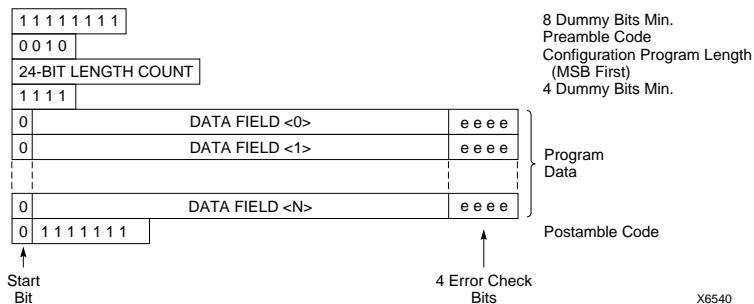

Figure 7-7 XC4000 Configuration Bitstream Format
Figure 7-7 shows the format of the XC4000 configuration bitstream, as generated by the MakeBits program. The bitstream consists of header and program data. The header consists of four dummy bits, the preamble code, the configuration-program-length count, and an additional four dummy bits. The program data is divided into frames consisting of a start bit (0), the data field, and four error check bits (eeee). The bitstream ends with eight or more postamble bits (01111111). The exact number of the bits in the bitstream is represented by the 24-bit program-length count.
Each data frame of the FPGA configuration bitstream has four error bits at the end, as illustrated in Figure 7-7. If a frame data error is detected during the loading of the device, the configuration process with a potentially corrupted bitstream is terminated. The FPGA pulls the INIT pin Low and goes into a wait state.